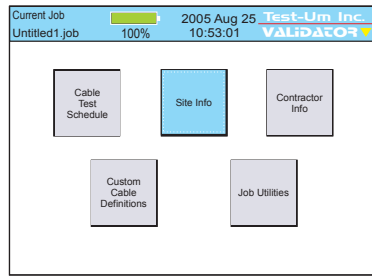

Figure 3.4 Creating Job Information
Job Information consists of **Contractor Information** and **Site Information**. Contractor Information identifies contact information for the company performing the job. Site information contains information about the site you are designing. (Figure 3.4)
4. Enter a **Filename** using the alphanumeric keypad. (Figure 3.4) Press Accept. Depress the respective key multiple times to scroll through the alpha and numeric options. If the subsequent alphanumeric character is on the same key, you must use the right arrow key to navigate to the next space. When the subsequent letter is on a different key the cursor automatically advances to the next space. The number one (1) key contains the following special characters: @ () - . , space The Filename you create will reside in the Job Manager.